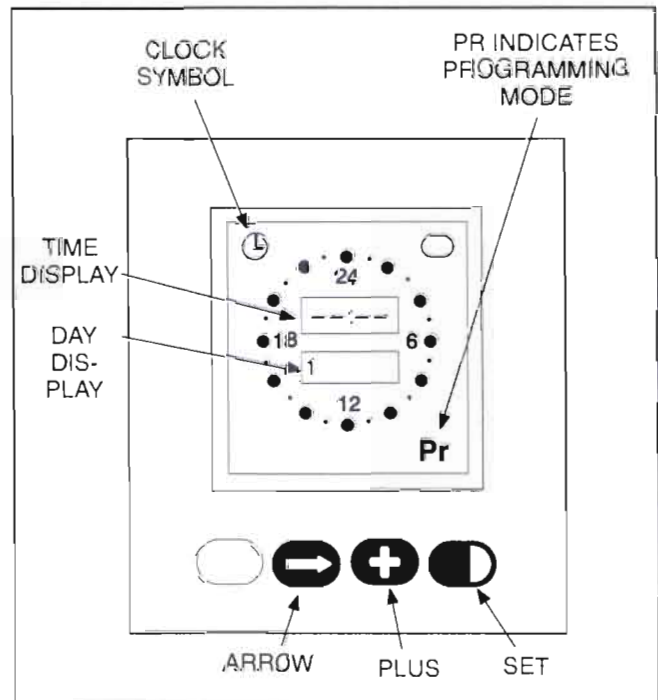

FIGURE 4-5. EXERCISER CLOCK
1. With the exerciser clock powered, press all three buttons simultaneously to reset the time. The time display area will show (-- : --) and a small clock symbol will appear in the upper left corner of the display. Refer to Figure 4-5.